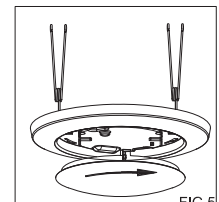

FIG.6
7. Complete the installation by pushing the fixtures into the ceiling. Caulk the space between the wall and the Shell. (FIG.6)
- Connect the wires: Black to Black, White to White, Green to Green. Secure the connection with Wire Nuts. (FIG.6)